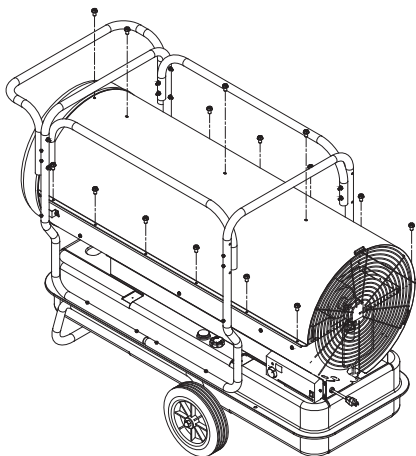

Figure 6. Upper Shell Removal
(See Figure 6)
- Remove upper shell (See figure 6 above)